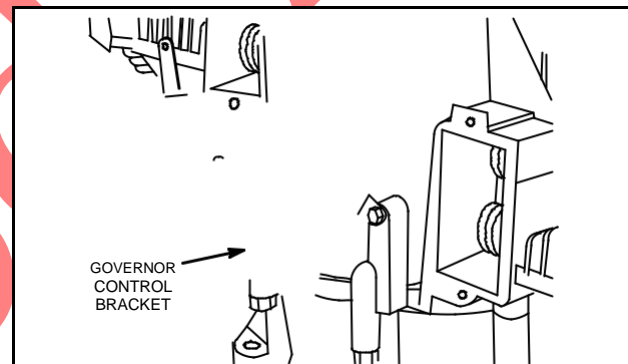

Fig. 22 – Install Governor Lever And Control Bracket
2. Install governor control bracket, Fig. 22.